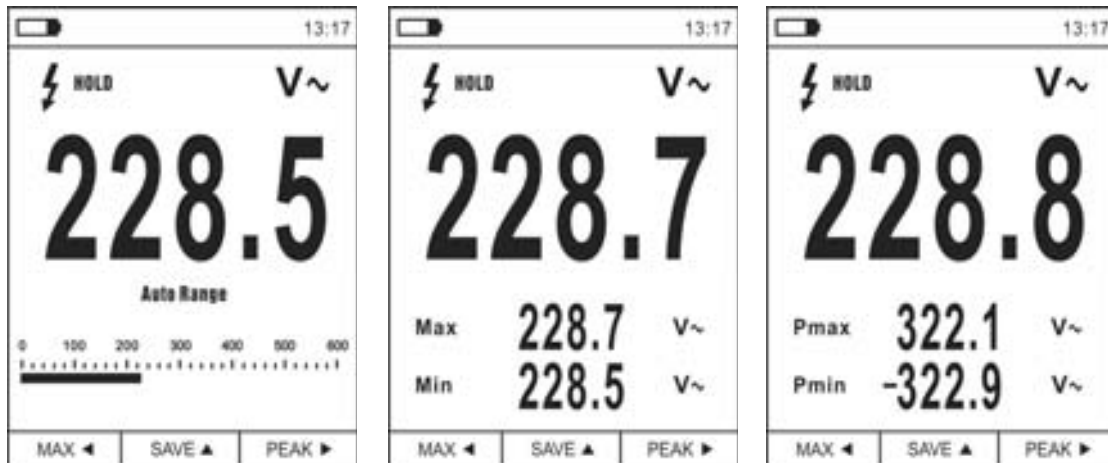

Fig. 9: MIN/MAX and PEAK measurement
1. Press key **MAX** ◀ to enter measurement of MAX and MIN values of the quantity to be measured (see Fig. 9 - central part). The symbols “MAX” and “MIN” appear on the display.
6. Press key **PEAK** ▶ to enter measurement of Peak values of the quantity to be measured (see Fig. 9 – right side). Symbols “Pmax” and “Pmin” appear on the display and values are updated in the same way as for the MAX/MIN function.